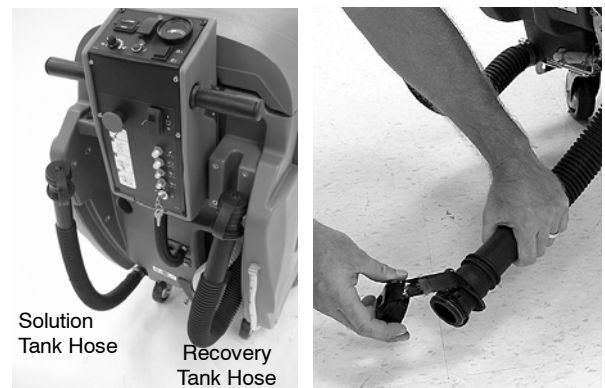

FIG. 22
2. Remove the drain hose cap and slowly lower the hose over the drain site (Figure 22). Lift the hose to stop the flow. The recovery tank drain hose is located on the right side and the solution tank drain hose is located on the left side.